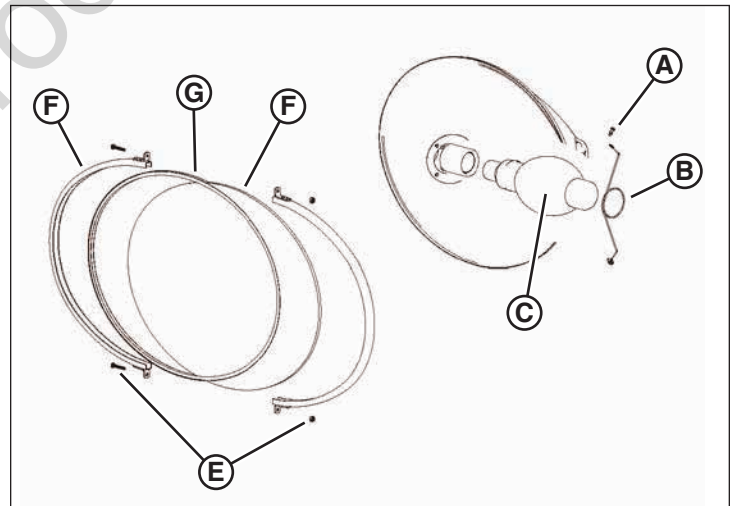

Figure 38
3. Loosen the lens channel screws (E, Figure 38) to allow the removal of the lens channel (F).
4. Remove the silicone gasket (G, Figure 38) and lens (H).
5. Remove the support clip screws (A, Figure 38) and support clip (B).
6. Carefully remove the old lamp (C, Figure 38), and install the correct replacement lamp. See **Specifications**.
7. Clean the reflector (D, Figure 38) and lens.